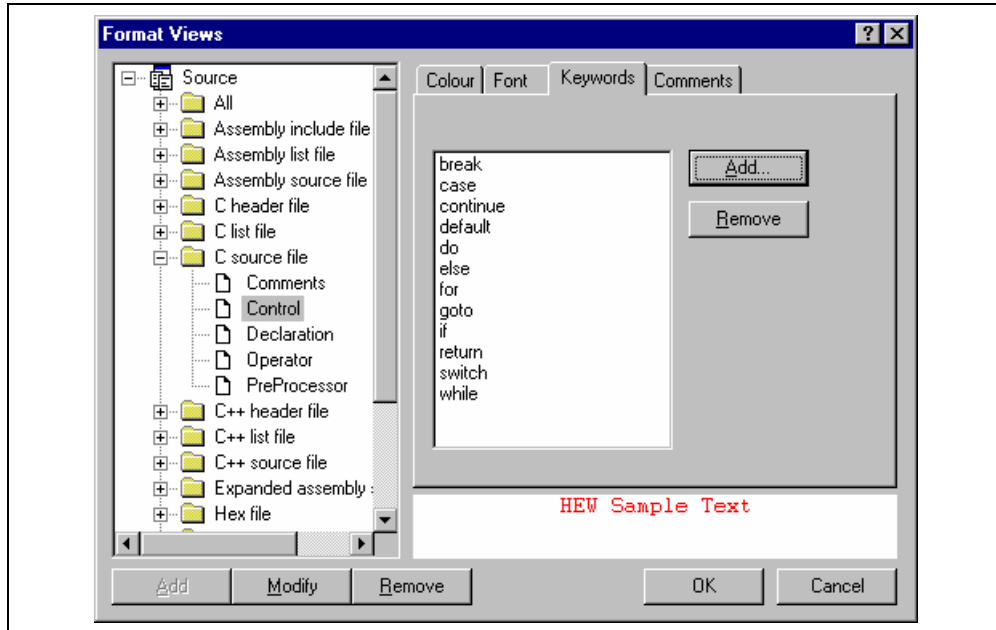

Figure 4.12: Format Views Dialog Keywords Tab
3. Select the “Keywords” tab (figure 4.12).